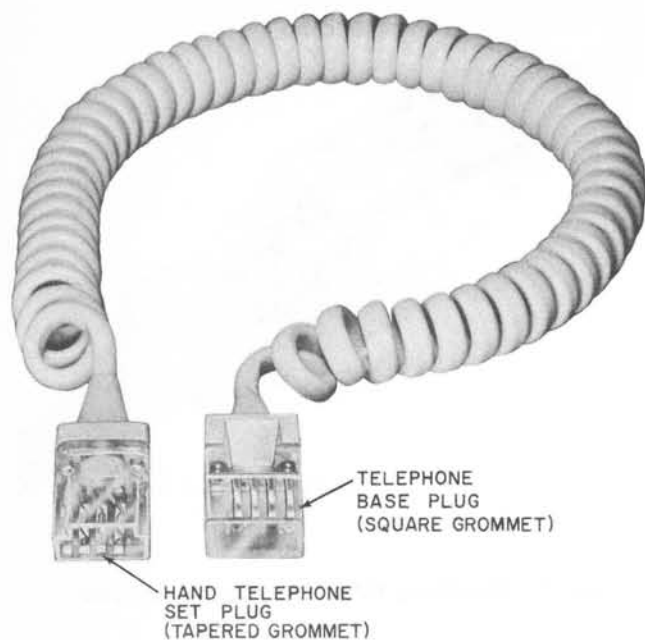

Fig. 11—H4DB Cord
2.14 Mounting and handset cords are also available with a push-in-lock type plug (Fig. 11 and 12). The TRIMLINE telephone set and G-12 handset are some of the current uses for these cords. The cord plug is retained in a telephone set or handset by a spring clip which locks the plug into its connection receptacle. A KS-16750L2 tool is needed to release this spring clip.